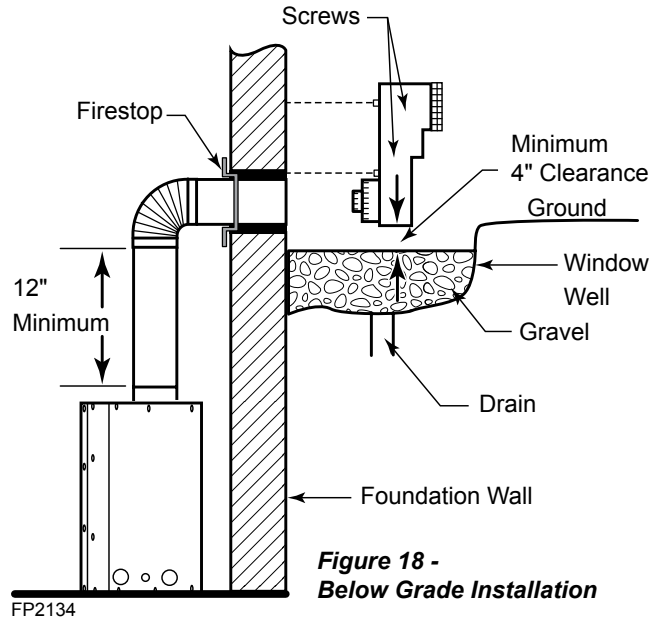

Figure 18 -
7. Level the soil so as to maintain a 4" clearance below snorkel. *Figure 18*
2. Remove soil to a depth of approximately 16" below base of snorkel. Install drain pipe. Install window well (not supplied). Refill hole with 12" of coarse gravel leaving a clearance of approximately 4" below snorkel. *Figure 18*